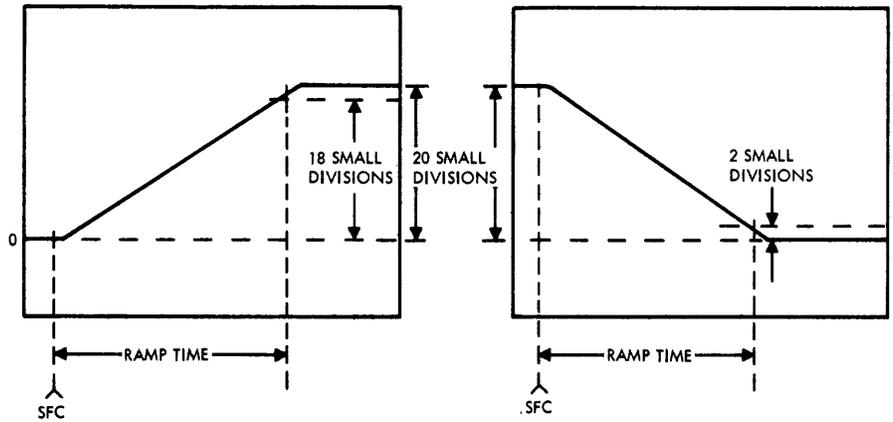

Figure 6-1. Ramp Levels and Timing
- (1) Connect a signal probe of a Tektronix Model 561 (or equivalent) oscilloscope to TP18 on the Tape Control PCBA.
- (2) Connect the oscilloscope reference probe to TP24 (0v) on the Tape Control PCBA.
- (3) Apply a 5Hz symmetrical square wave with a 3v amplitude (+3.0v to 0v) to the interface line ISFC (J101 pin C or TP8).
- (4) Synchronize the oscilloscope on the negative-going edge of the square wave input.
- (5) Adjust the oscilloscope Variable Vertical (volt/div) control to display 0 to 100 percent of the ramp waveform over four large divisions on the oscilloscope graticule.
- (6) Observe that the ramp adjustment time intersects 90 percent of the ramp amplitude (18 small divisions of oscilloscope graticule). Figure 6-1 illustrates ramp levels and timing.
Specified time results in oscilloscope display illustrated in Figure 6-1. The ramp adjustment time intersects 90 percent of ramp amplitude when accelerating and 10 percent of ramp amplitude when decelerating.